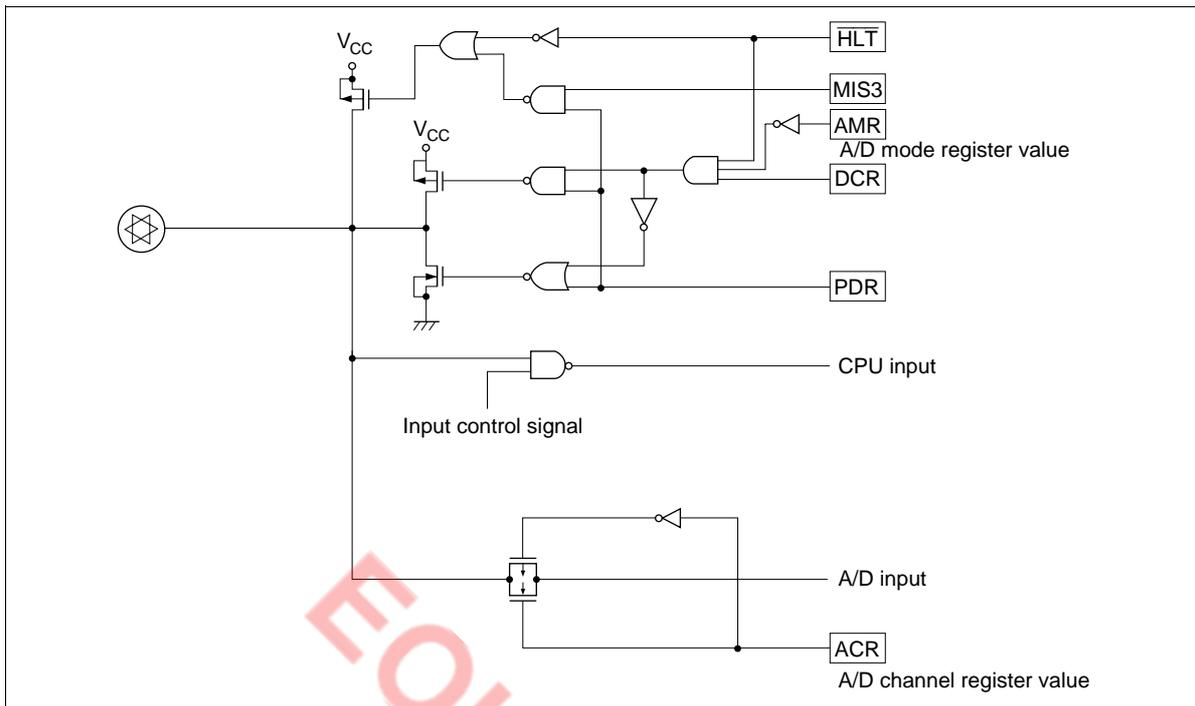

Figure 71 R Port/Analog Multiplexed Pin Circuit
- The port data register (PDR) is initialized to 1 by an MCU reset. At this time, if pull-up MOS is selected as active by bit 3 of the miscellaneous register (MIS3), the port will be pulled up to  $V_{CC}$ . When using a shared R port/analog input pin as an input pin, clear PDR to 0. Otherwise, if pull-up MOS is selected by MIS3 and PDR is set to 1, a pin selected by A/D mode register 1 or 2 (AMR1 or AMR2) as an analog pin will remain pulled up (figure 71).